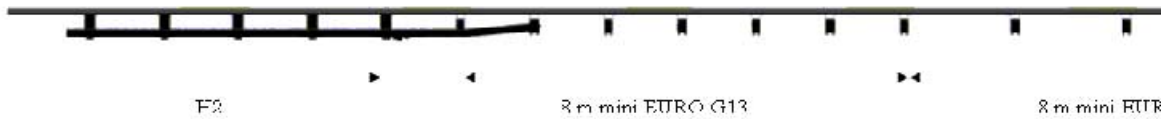

Figure 16 - Raccordement H2-GS solution 1
- Figure 16. - Raccordement Systech H2-GS - solution 1.